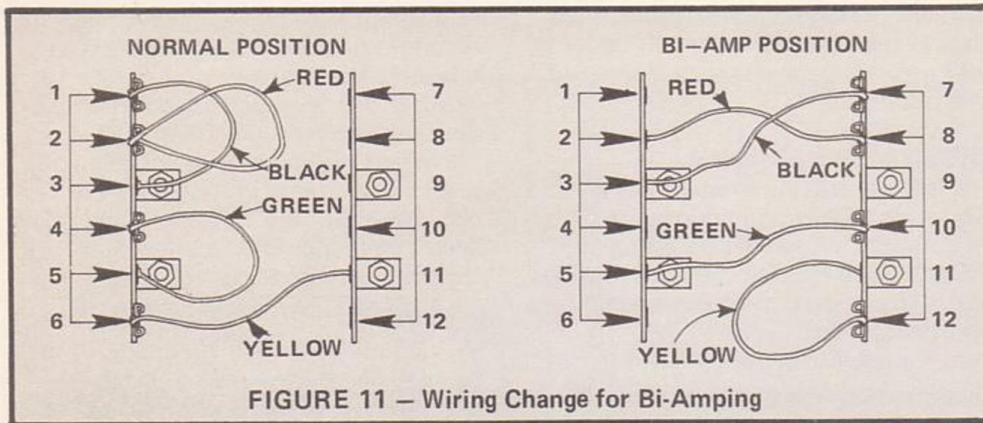

FIGURE 11 – Wiring Change for Bi-Amping
2. *Two amplifiers and external crossover.* Remove the buss wires between the input connectors on the crossover network and remove the entire crossover assembly by removing the sixteen No. 10 — 1/2" long Phillips head wood screws. On the backs of the input connectors you will find two terminal strips. There are four jumper wires on these terminal strips whose position is changed in order to disable the 600 Hz crossover. (Figure 11 indicates the wiring change.) The black wire is removed from terminal 1 and pushed on to terminal 7. The red wire is moved from terminal 2 to terminal 8. The green wire is moved from terminal 4 to terminal 10, and the yellow wire is moved from terminal 6 to terminal 12. The internal 600 Hz crossover will be by-passed if the preceding instructions were followed.